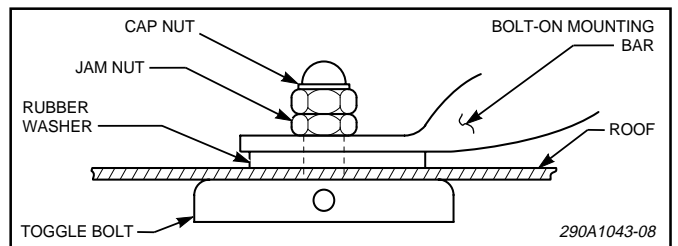

Figure 11.
6. Insert a toggle bolt into each hole, then place a rubber mounting pad over each toggle hole (see figure 11). Next, place the permanent mounting brackets down over the ends of the toggle bolts and screw-on jam nuts. Tighten the jam nuts. Saw-off the toggle bolts 3/16-inch above the jam nuts and screw-on the cap nuts. The unit should now be solidly anchored to the roof. Reinstall dome.